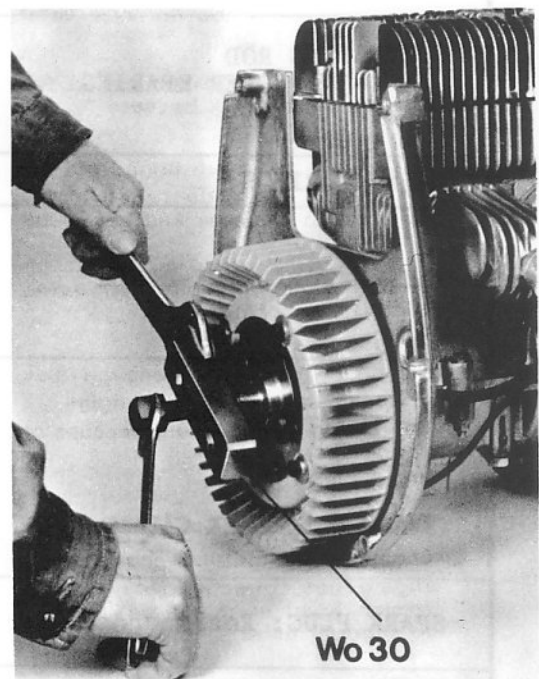

Fig. E2
6. Remove magnet support and blower wheel with special tool Wo30 (Fig. E2).